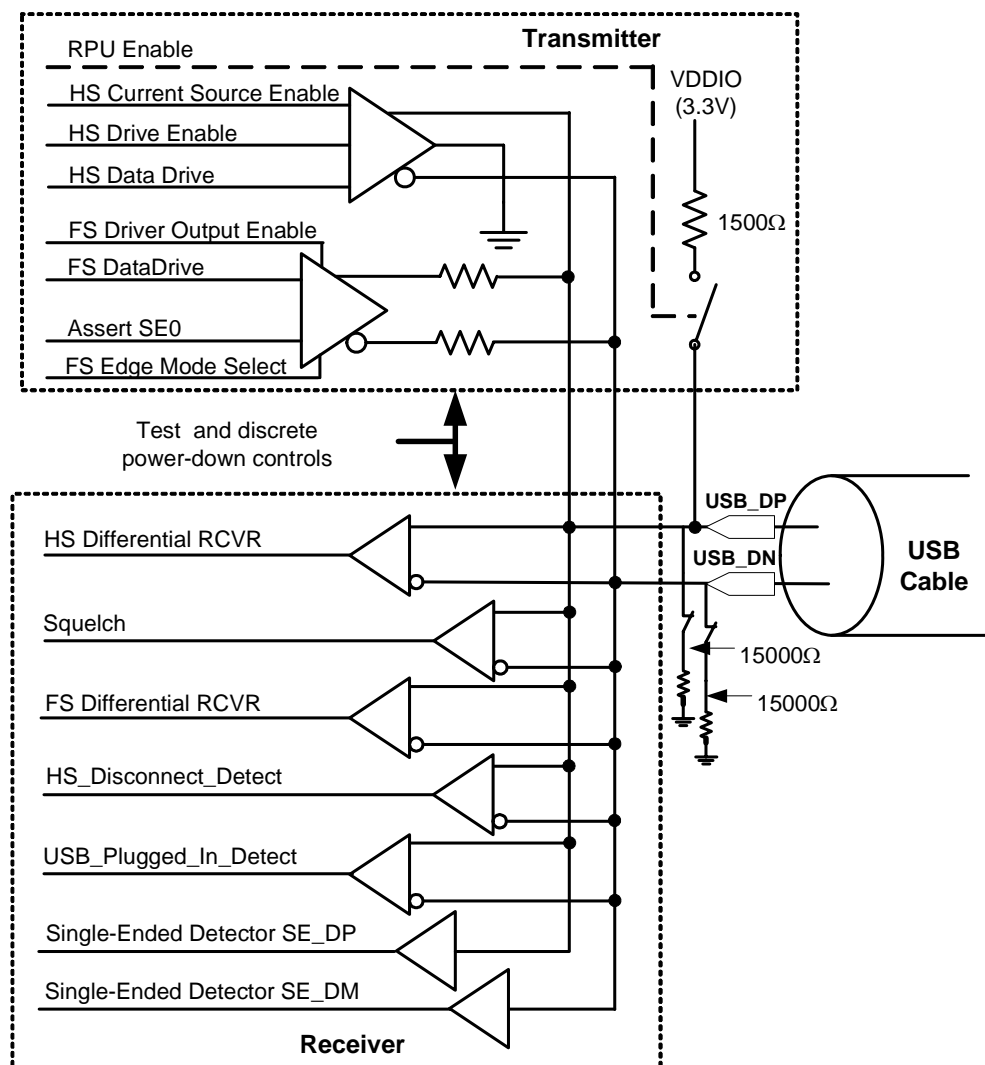

Figure 28. USB 2.0 PHY Analog Transceiver Block Diagram
- The analog transceiver section comprises an analog receiver and an analog transmitter, as shown in Figure 28.
The analog receiver comprises five differential receivers and two single-ended receivers, as shown in Figure 28 and described further in this section.
The analog transmitter comprises two differential drivers: one for high-speed signaling and one for full-speed signaling. It also contains the switchable 1.5K Ω pullup resistor. See Figure 28.